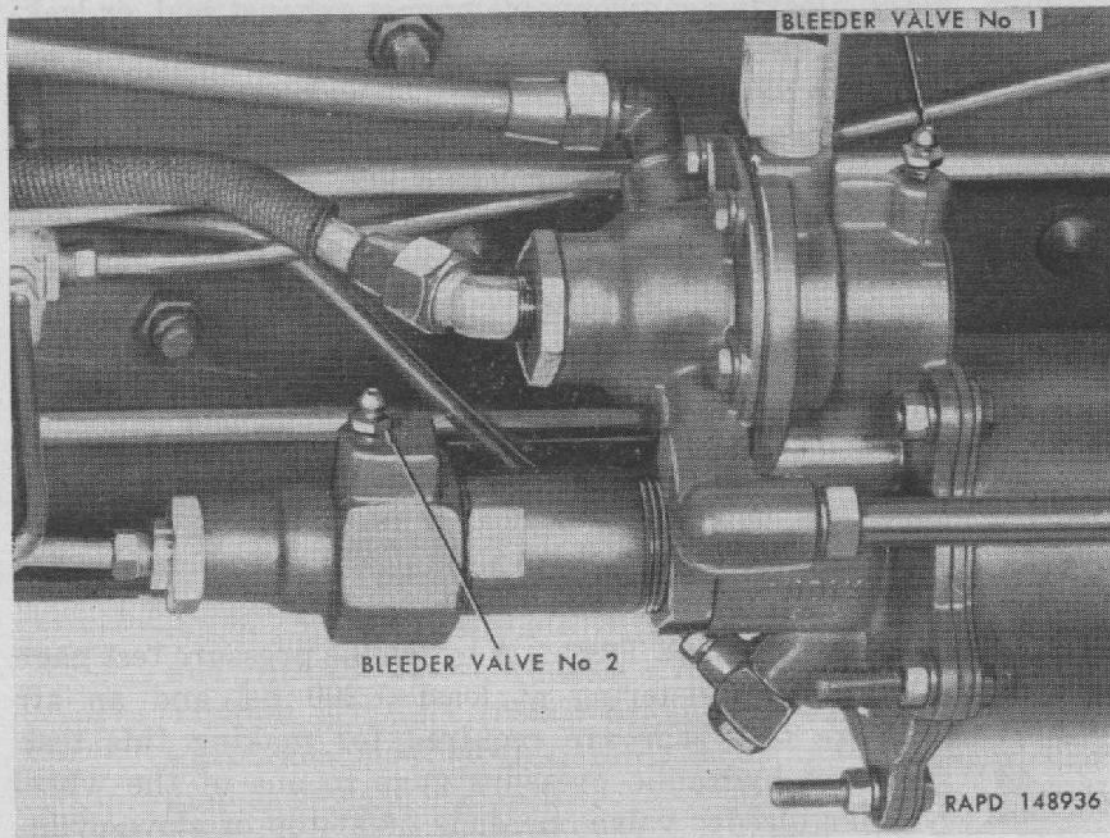
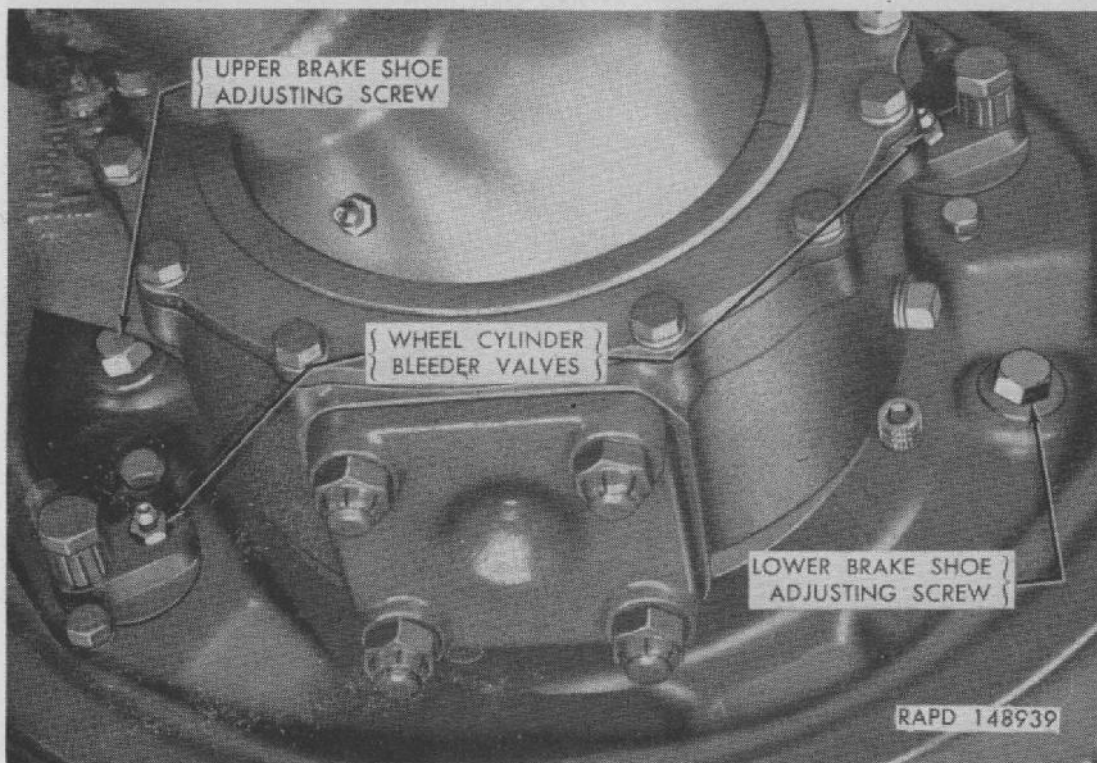
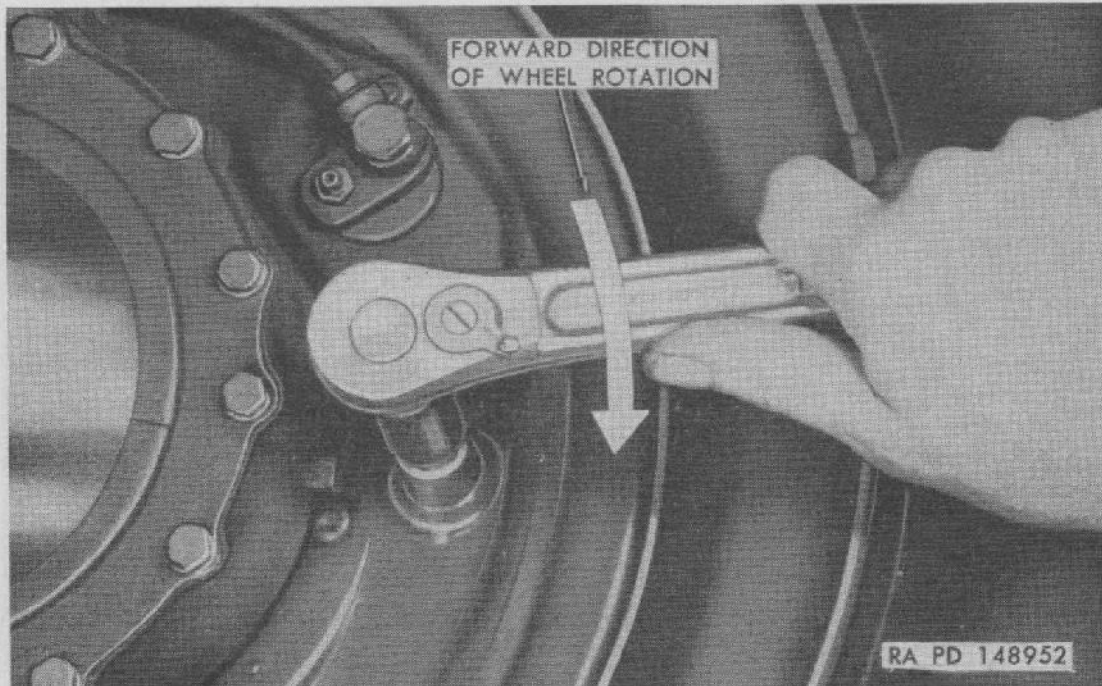

Figure 127. Air power cylinder bleeder valves.
Figure 128. Brake bleeder valves and adjusting studs (left front wheel).
Figure 129. Adjusting brake shoes.
a. **GENERAL.** Master cylinder filler cap is accessible through hole in left side of floor pan after removing pry-out hole cover. Air power cylinder bleeder valves are accessible from under vehicle (fig. 127); wheel cylinder bleeder valves are accessible at inner side of backing plates (fig. 128). Bleeding brake system may be accomplished by one of two methods, *pressure* or *manual*.
a. **GENERAL.** Brake adjustments to compensate for normal lining wear are made at the brake shoes. These adjustments should be made before the brake pedal reserve travel becomes less than two inches. Adjustments are made by turning adjusting pinion studs at inner side of backing plates (fig. 128). Always check wheel bearing adjustment (par. 244) before adjusting brake shoes. Do not adjust brake shoes while brake drums are hot.
- (1) Jack up axle; then make a brake application and release to center brake shoes with brake drums.
- (2) Using a torque wrench on adjusting pinion studs (fig. 129), turn studs in direction of forward rotation of wheel until a torque wrench reading of 13 to 16 pound-foot torque is obtained; then turn studs in opposite direction one-third turn (120 deg.) to provide running clearance between lining and drum.
- (3) After completing adjustment at each wheel, make sure wheel turns freely; then remove jacks from under vehicle.